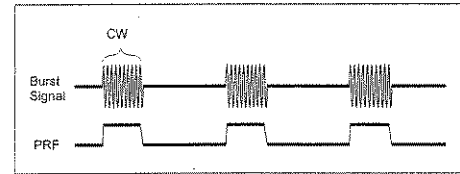

Fig. 6-6 Burst signal.
A burst signal as in Figure 6-6 is an AM modulated signal with 100% modulation depth. The signal has a carrier wave (CW) frequency and a modulation frequency, also called the pulse repetition frequency (PRF), that switches the CW signal on and off.